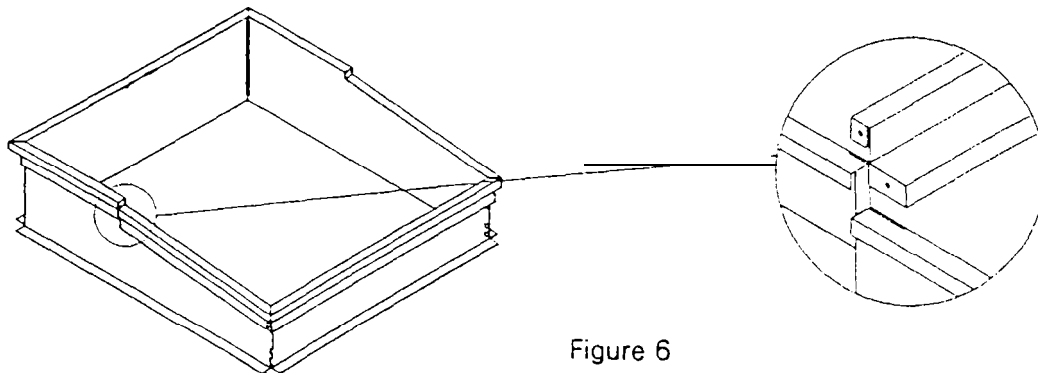

Figure 6
Place the duct support (D) on the curb, making sure that it is in the right location. See figure 6.
Install unit supports (F) on platform as shown in Figure 6.